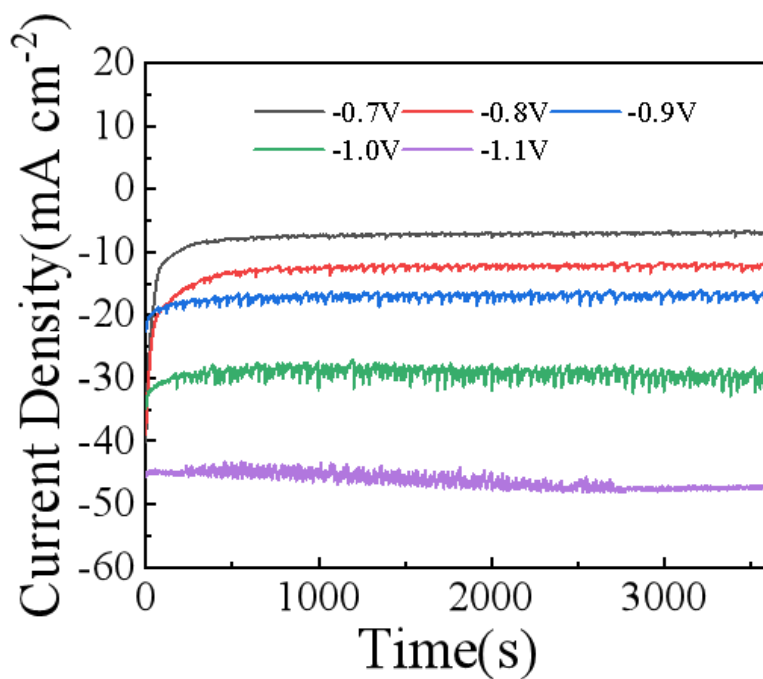

Figure S4. The current density of Bi/CeO₂/CuS at different potential
The chronoamperometry (CA) curves at various applied potentials for 1 h are shown in Figure S4, the negligible decay of current density at -1.0 V and